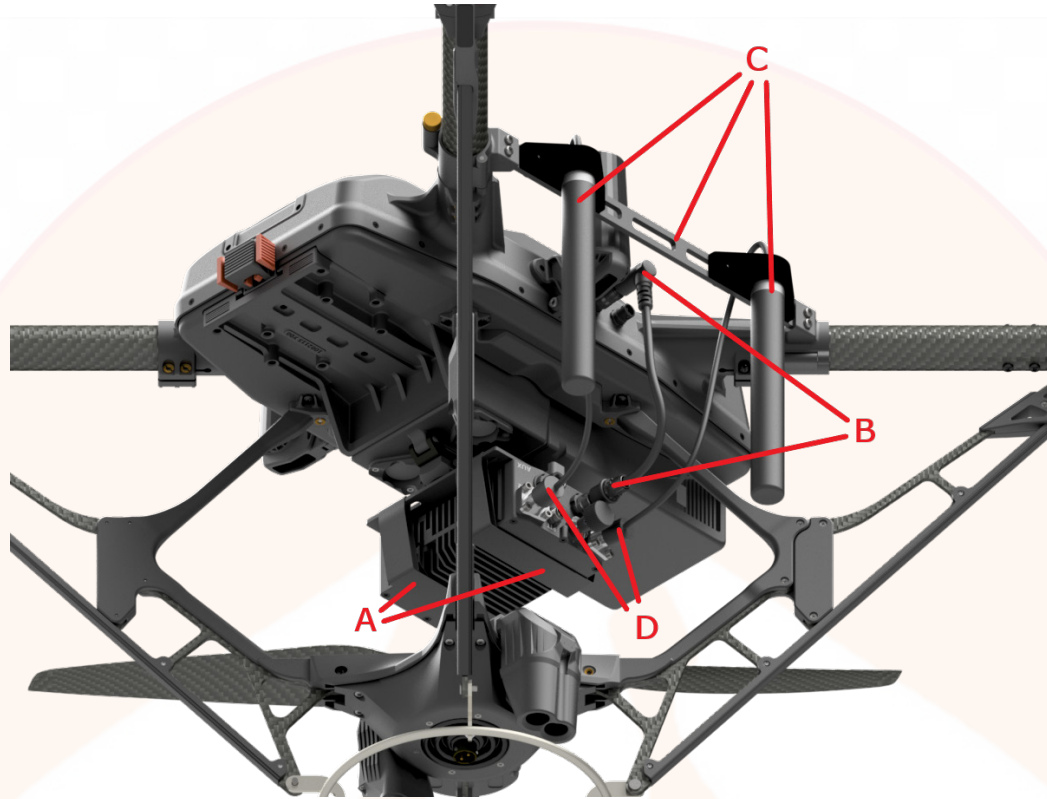

Figure 23: SC4200E-EB Radio Installation
1. Insert the SC4200E-EB radio into the two straps attached to the Universal Radio Plate, centered and oriented as shown, and then tighten the straps to secure the radio in place (**Figure 23, A**).
3. Connect the HL, SC-4200E Primary Port Cable Assembly to **PRI** on the radio and plug it into the aircraft **E1** connector (**Figure 23, B**).
4. Install one Antenna Bracket with two Octane Antennas (**Figure 23, C**) on the left side of the aircraft (see Bracket and Antenna installation instructions above).
5. Connect the Octane Antenna cables to the radio's **A1** and **A2** connectors (**Figure 23, D**).